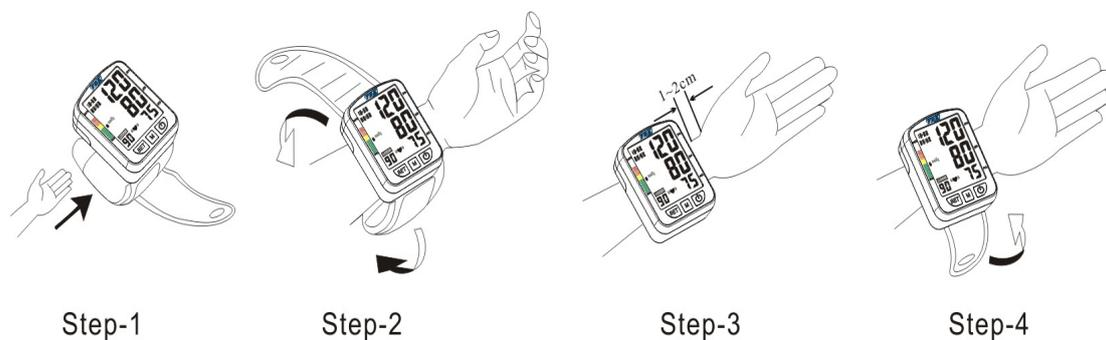

Figure 6
- ★ The cuff should be snug but not too tight. You should be able to insert two fingers between the cuff and your wrist. **See Figure 6.**